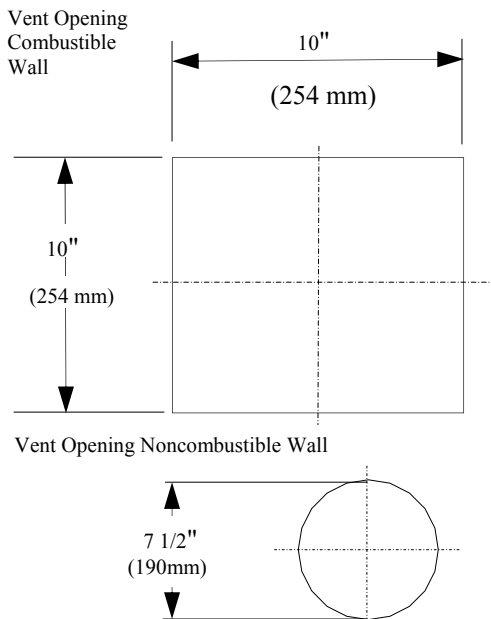

Figure 21— Vent Opening Requirements
3. Attach vent pipe assembly to the burner system. Set stove in front of its permanent location to ensure minimum clearances. Mark the wall for a 10" square hole (for noncombustible material such as masonry block or concrete, a 7 1/2" diameter hole is acceptable). See Figure 21. The center of the hole should line up with the center line of the horizontal rigid vent pipe. Cut a 10" x 10" (254mm x 254mm) square hole through combustible exterior wall (7 1/2" [190mm] diameter hole if noncombustible). Frame as necessary.
3. Cut a hole in the roof using the locating hole as a center point. (Cover any exposed open vent pipes before cutting hole in roof.) The 10" x 10" hole must be measured on the horizontal; actual length may be larger depending on the pitch of the roof. There must be a 1" clearance from the vent pipe to combustible materials. Frame the opening as shown in Figure 21.